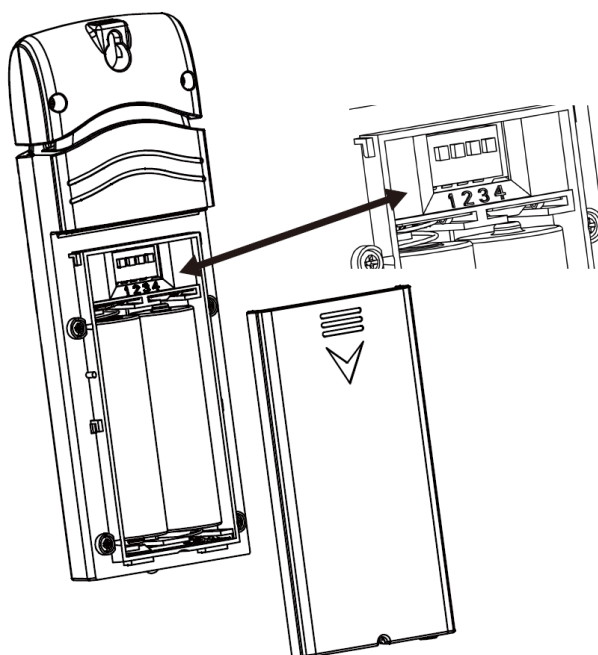

Figure 8
1. Remove the battery door on the back of the transmitter(s) by sliding down the battery door, as shown in Figure 8.
3. **Channel Number:** The ObserverIP supports up to eight transmitters. To set each channel number (the default is Channel 1), change Dip Switches 1, 2 and 3, as referenced in Figure 8.
4. **Temperature Units of Measure:** To change the transmitter display units of measure (°F vs. °C), change Dip Switch 4, as referenced in Figure 8.